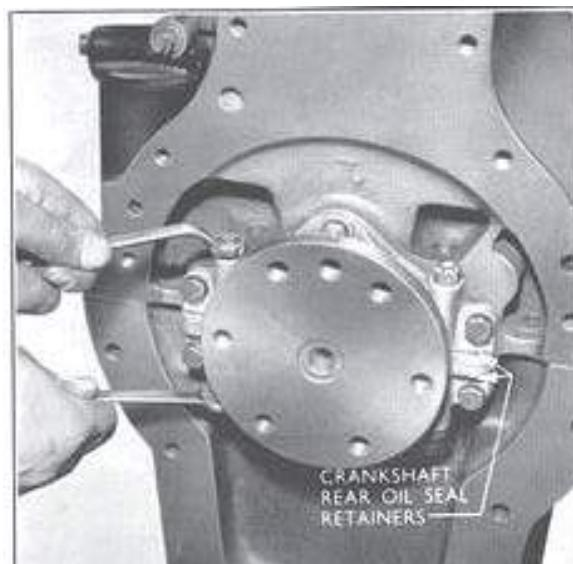

Fig. 21
4. Pack the new bearing with high melting point grease and locate it in the flywheel, with the baffle face outwards. Tap the bearing in using the adaptor (CPT.7061), and the universal handle (Tool No. 550) as shown in Fig. 21.
3. Refit the two long bolts and self-locking nuts and tighten fully (see Fig. 21).